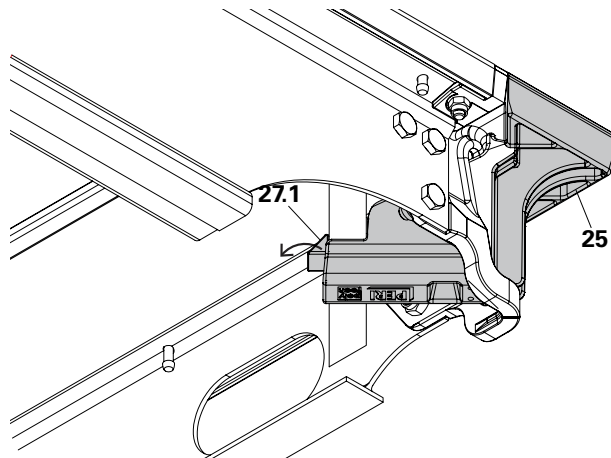
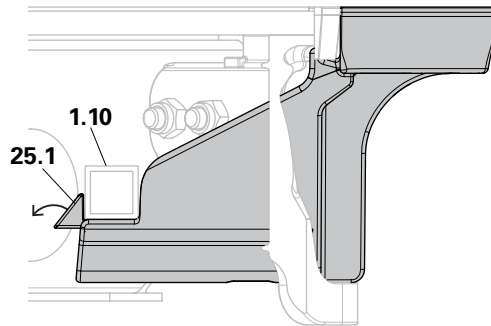

Fig. A2.21
Fig. A2.22
1. To remove the corner insert AD (25) from the panel, press-down the triangular clip (25.1) and release the locking from square tube (1.10) of the panel (1). (Fig. A2.21 + Fig. A2.22)